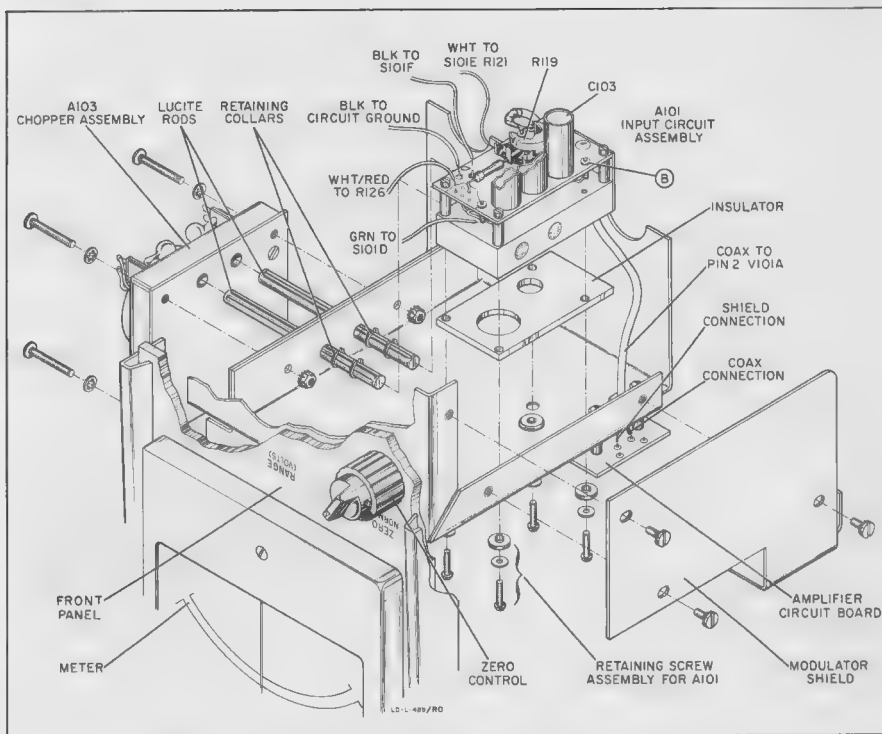

Figure 5-3. Exploded View, Showing Disassembly for Modulator Replacement
h. Move oscilloscope probe (with resistor) to point B in figure 5-3.
5-22. Figure 5-3 shows necessary disassembly for modulator replacement. Proceed as follows:
- Disconnect all wires from the top of A101 as shown in figure 5-3.
e. Remove the four screws holding the input circuit assembly (A101) to the main chassis. When replacing this assembly, be sure to reseat the insulated washers (figure 5-3) in their proper positions.
g. Carefully unsolder the shielded cable (figure 5-3) from the amplifier circuit board (pin 2 and 3 of V101A). (A length of cable is normally supplied with the input circuit assembly. However, if it is more convenient, and the cable is known to be good, it may be disconnected at the input assembly circuit board.) In any case, avoid undue heat that might damage the inner conductor insulating material in the coax.